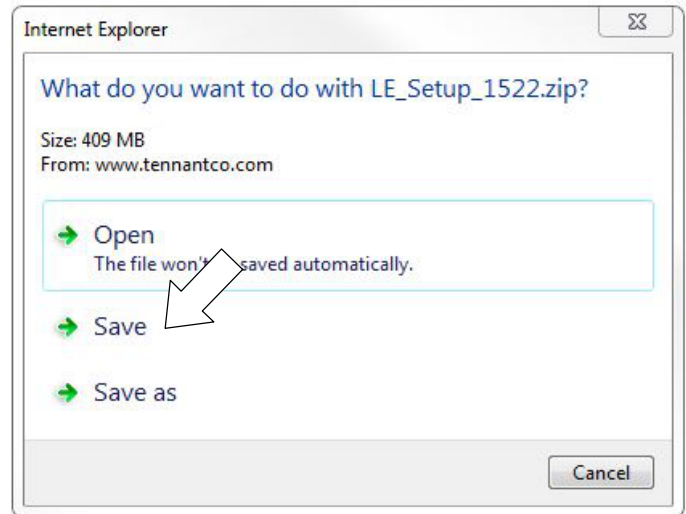

Fig. 15
5. To download the service software continue to click as instructed then click the Save button (Figure 15).